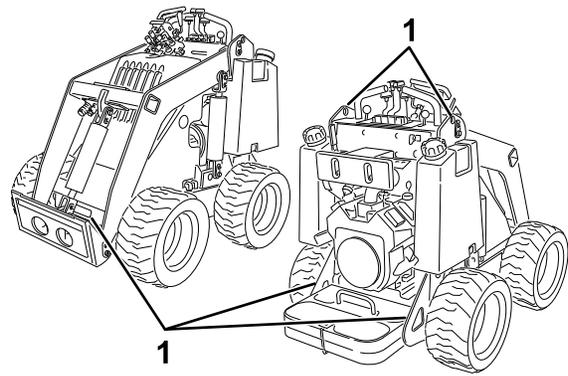

Figure 8
8. Use the metal tie-down loops on the machine to securely fasten the machine to the trailer or truck with straps, chains, cable, or ropes (Figure 8). Refer to local regulations for tie-down requirements.